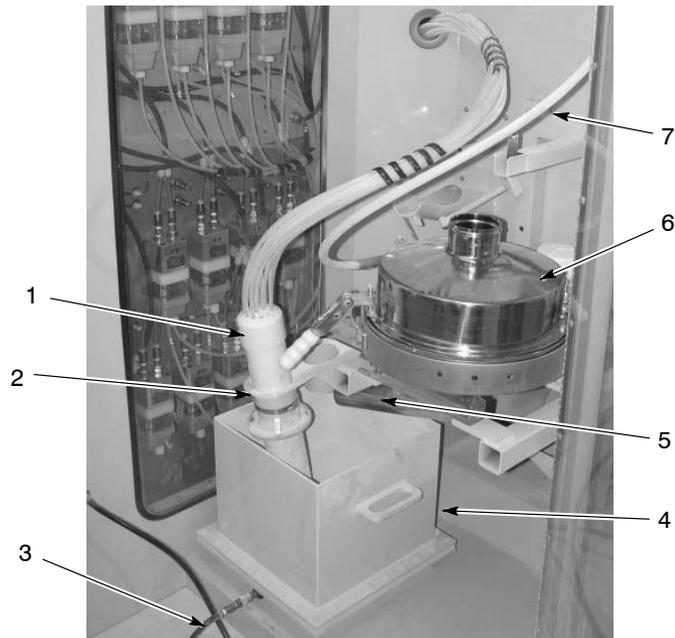

Figure 13 Feed Hopper and Sieve Setup and Connections
4. See Figure 13. Position the feed hopper (4) under the lance guide (2).
5. Make sure the sieve discharge chute (5) is positioned so the screened powder will fall into the feed hopper. To position the chute, release the sieve deck clamps, rotate the chute, then retighten the clamps.
6. Connect the fluidizing air hose (3) to the hopper fluidizing pan.
8. If used, connect the reclaim and virgin powder transfer tubing (7) to the sieve deck inlet stubs.
14. See Figure 13. Install the lance(s) in the lance guide.